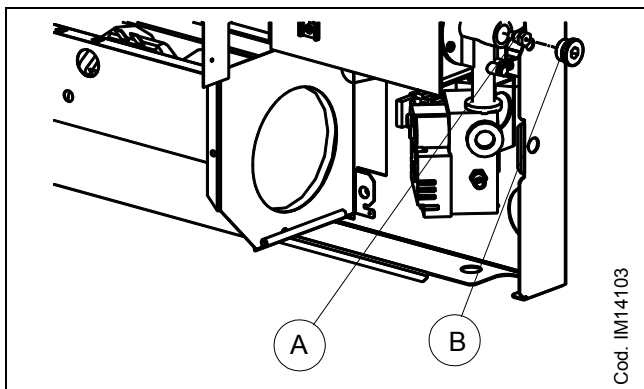
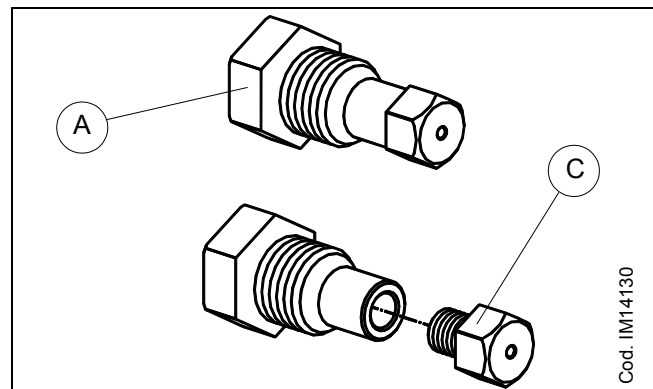

Figure 28 – BURNER ASSY DETAIL
Figure 29 – NOZZLE SUPPORT DETAIL AND GAUGED NOZZLE
1. Unscrew the “B” plug with the help of a no. 19 wrench (see Figure 28).
1. With a n.º 19 wrench, unscrew plug B (see Figure 28).
2. With a socket wrench n.º 10 introduced in the opening, unscrew the “A” (see Figure 28 and Figure 29).